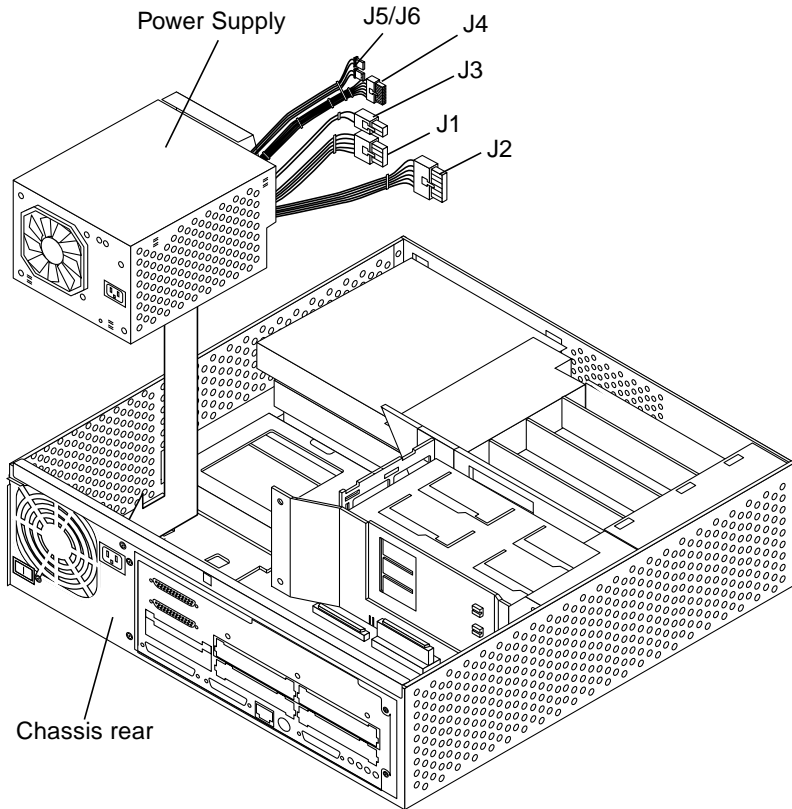

FIGURE 8-2 Replacing the Power Supply
- 4. Connect the following power supply connectors to the motherboard (FIGURE 8-2:**